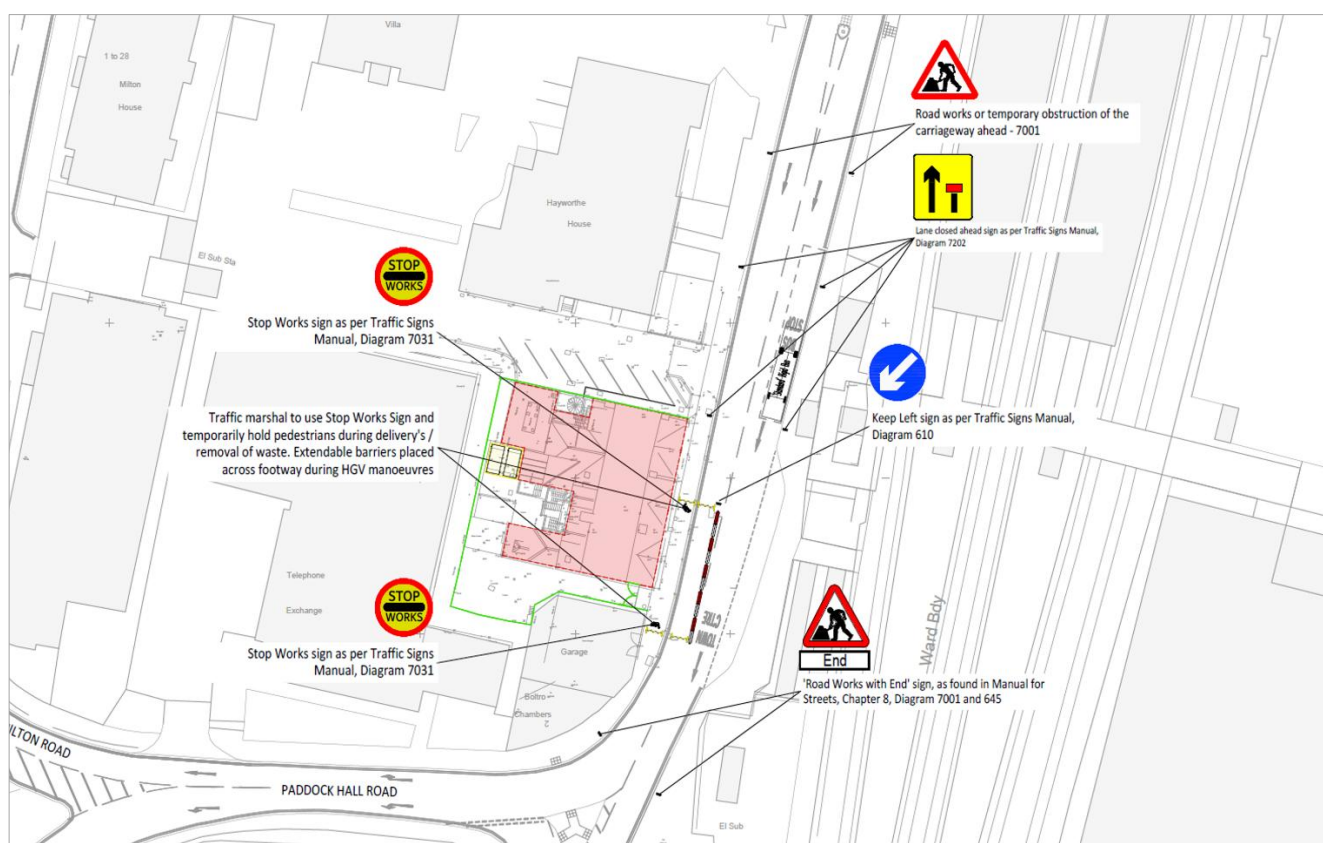

Figure 2.3: Phase 1 Street Works & Signage
- i. 'ROAD WORKS' (TSM ref. 7001) sign located 45.0m in advance of the pitlane on Market Place
- ii. 'LANE CLOSED AHEAD' (TSM ref. 7202) sign located 30.0m in advance of the pitlane on Market Place
- iii. 'KEEP LEFT' (TSM ref. 610) sign located at north east corner of the pitlane facility on Market Place
- iv. 'ROAD WORKS + 'END' plate (TSM ref. 7001) sign located after the Market Place pitlane
- 2.4.2 The site's signage arrangement is shown in **Drawing 2024-6806-002** and in **Figure 2.3**.